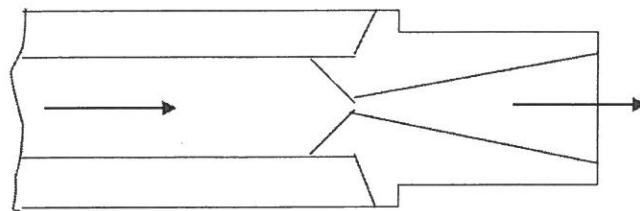

Figure 2(b) : Nozzle / Rajah 2(b) : Nozzle
- (b) Based on Figure 2(b) shown below,